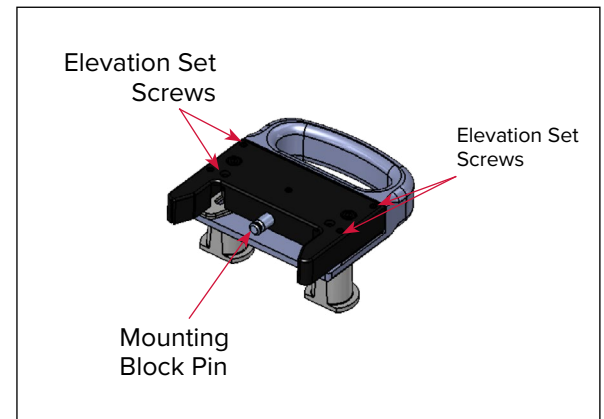

Fig. 37
- Adjust the height of the Mounting Block Pin using the (4) Elevation Set Screws (found on the block) using the  $\frac{1}{8}$  in. Allen wrench provided (Fig. 37).